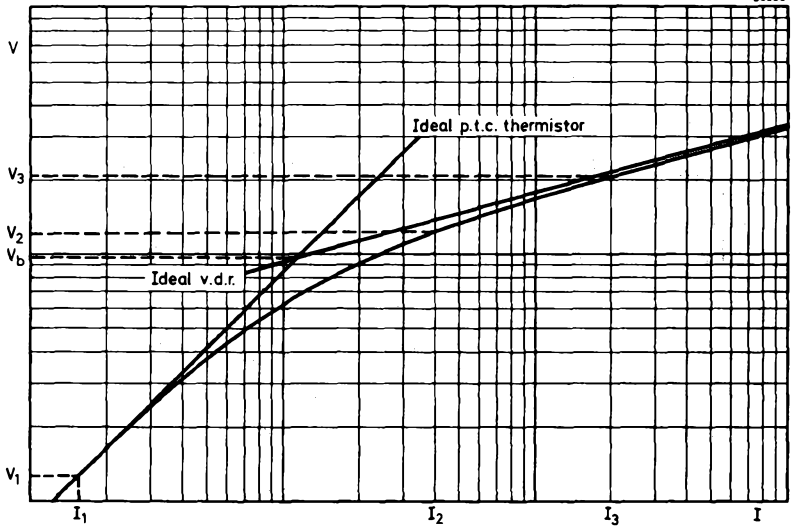

Fig. 10
P. T. C. thermistors exhibit a certain degree of voltage dependency at higher voltages. The equivalent circuit of a normal p. t. c. thermistor is an ideal p. t. c. thermistor having no voltage dependency, in parallel with an ideal voltage dependent resistor (v. d. r.) conforming to $V \propto I^\beta$. Figure 10 shows the voltage/current characteristic of a normal p. t. c. thermistor compared with these "ideal" components. These have been plotted on a log scale and the p. t. c. thermistor curves represent measurements made under pulse conditions.
Balance voltage (V_b). The voltage at the intersection of the ideal p. t. c. thermistor and the ideal v. d. r. characteristic curves (see figure 10) is the balance voltage at which point the current through both ideal components is equal. Where applicable, balance voltage is given in data at a specified ambient temperature.